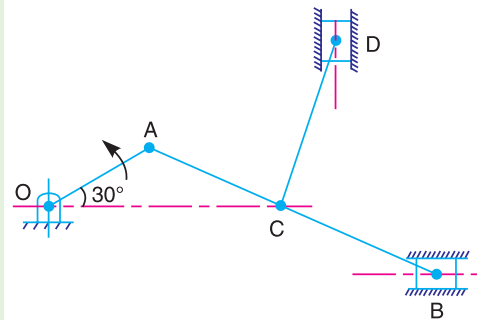

Fig. 8.41
6. The dimensions of the various links of a mechanism, as shown in Fig. 8.41, are as follows: